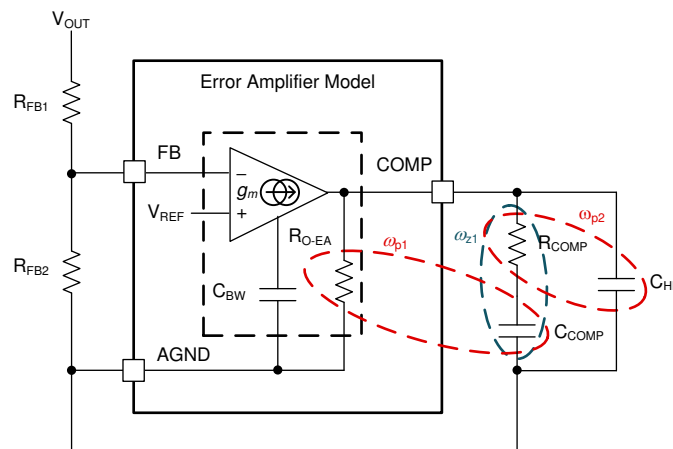

図 8-3. Error Amplifier and Compensation Network
図 8-3 shows a type-II compensator using a transconductance error amplifier (EA). The dominant pole of the EA open-loop gain is set by the EA output resistance,  $R_{\text{O-EA}}$ , and effective bandwidth-limiting capacitance,  $C_{\text{BW}}$ , as shown by 式 26.